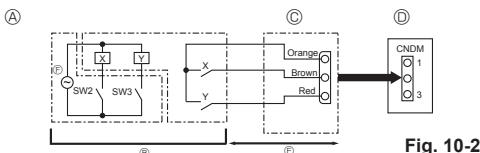

Fig. 10-2
10.2. Demand function (on-site modification) (Fig. 10-2)